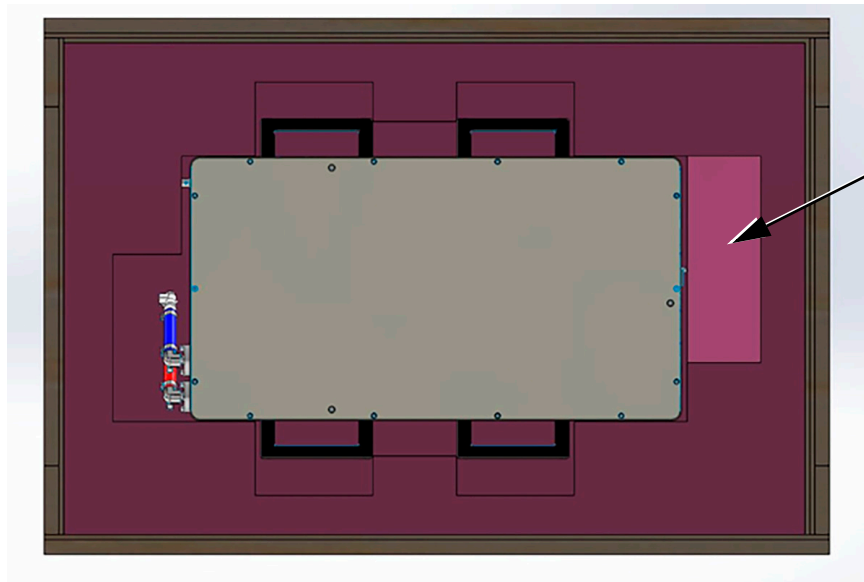

Figure III-5. Placing the Laser in the Bottom Foam Seat (shown without bag)
6. Carefully place the bagged laser head into the shipping crate in the proper orientation and into the bottom foam seat (see Figure III-5). The foam block (shown in light pink in Figure III-5) must be in place unless the laser head has an optional attachment installed.